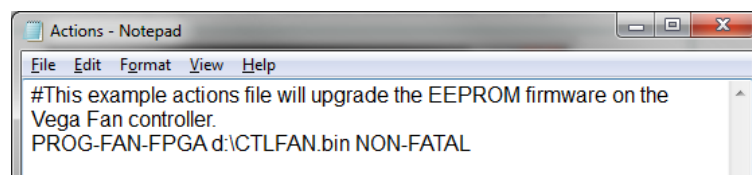

Fig 67. Example Actions.txt File to Update the Controller Software
- **Actions.txt** - Edit the Actions.txt file so that the only action is PROG - FAN - FPGA (see Fig 67.).
- **Actions.txt** - Edit the Actions.txt file so that the only action is PROG-FAN-FPGA (see Fig 67.).
- **Actions.txt** - Edit the Actions.txt file so that the only action is PROG-XPNT-FPGA (see Fig 67.).